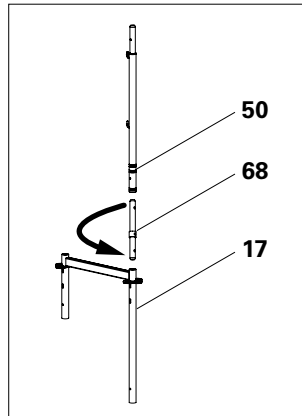

Fig. D1.12a
For frame columns with diagonal ends above: insert the short spigot of the spacer tube (68) into the head frame. (Fig. D1.12a)